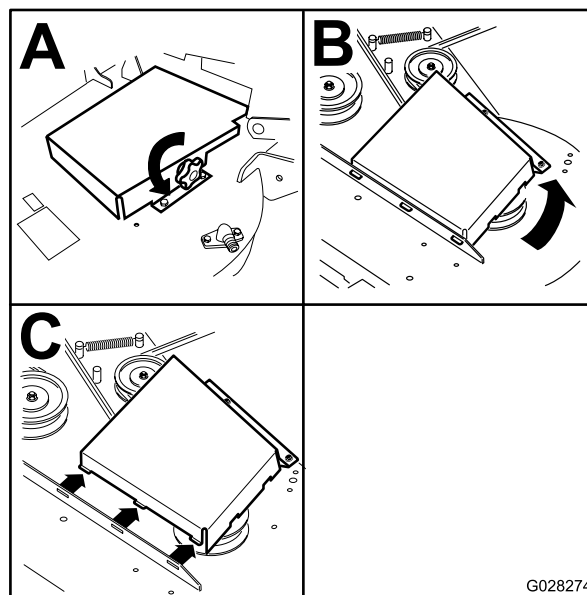

Figure 65
- Remove the belt covers (Figure 65).